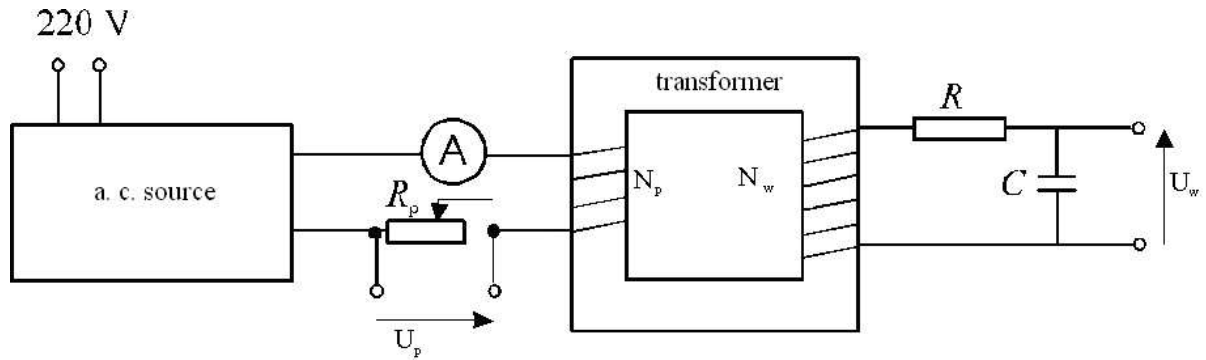

Figure 2: The experimental arrangement
1. Arrange the electric circuit as at the fig. 2.